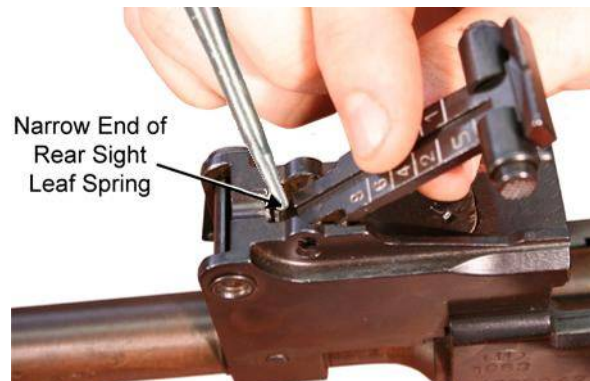

Figure 11. Dislodging the Rear Sight Assembly for Removal.
- c. Tilt the rear sight assembly to a 45 degree angle. While pressing down and forward on the narrow end of the rear sight leaf spring with a punch or flat head screw driver, hold the rear sight assembly with fingers and press down firmly to remove the rear sight assembly studs from the holes in the rear sight base. Refer to Figure 11.